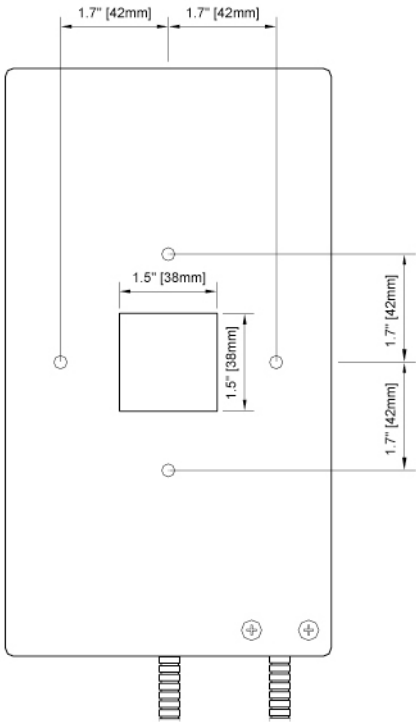

Figure 3 - Mounting
**See:** *Figure 3 - Mounting.*